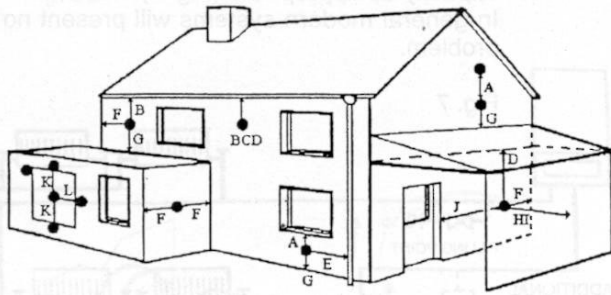

Fig. 6
4.6.1 The terminal should be located where dispersal of combustion products is not impeded and with due regard for the damage or discolouration that might occur to building products in the vicinity (see fig. 6). The terminal must not be located in a place where it is likely to cause a nuisance. In cold and/or humid weather water vapour may condense on leaving the flue terminal. The effect of such steaming must be considered. The terminal must not be closer than 25 mm. (1 in) to any combustible material. For protection of combustibles, refer to BS 5440.1. Where a flue terminal is installed less than 1000 mm. from a plastic, or painted gutter; or 500 mm from painted eaves, an aluminium shield 1000 mm. long, should be fitted to the underside of the gutter or painted surface. Plumbing will occur at the terminal so, where possible, terminal positions which could cause a nuisance should be avoided. The flue must be installed in accordance with the recommendations of BS 5440: Part 1.
Minimum acceptable spacing from the terminal to obstructions and ventilation opening are specified in Fig. 6.